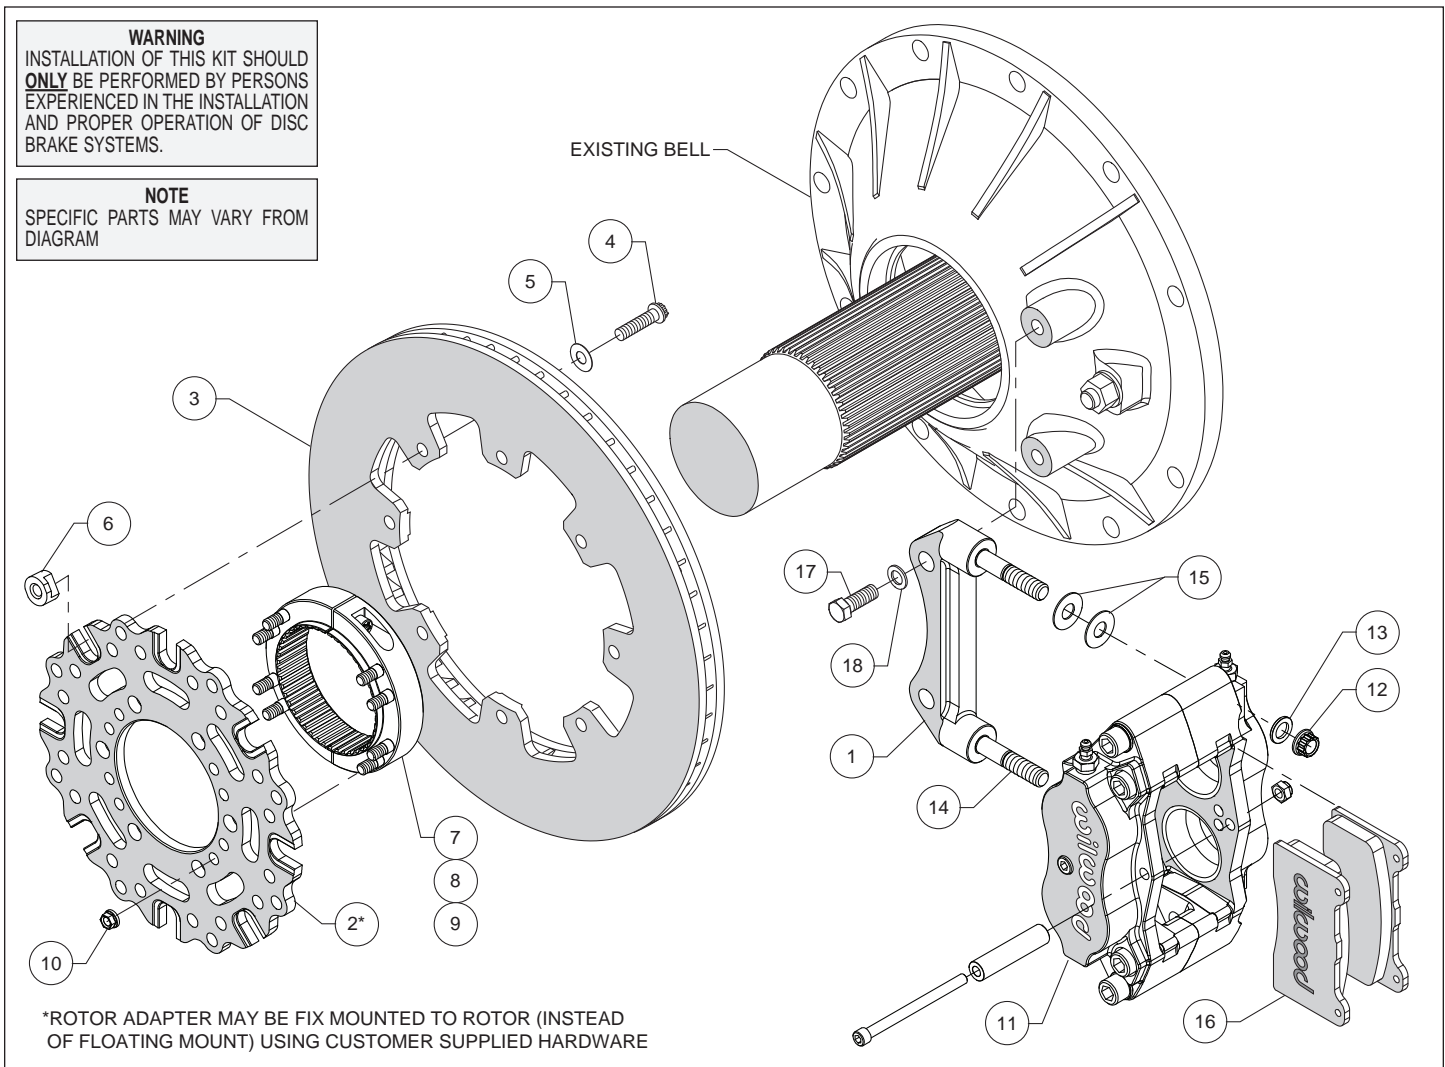

Figure 1. Typical Installation Configuration
• Orient the caliper mount bracket (1) as shown in Figure 1 and install using bolts (17) and washers (18). Temporarily tighten the mounting bolts. **NOTE: The bracket must fit squarely against the mount bosses on the bell.** Inspect for interference from casting irregularities, machining ridges, burrs, etc. Remove the bracket mounting bolts one at a time, apply red *Loctite*® 271 to the threads, and torque to 60 ft-lb.
• Orient the rotor adapter (2) and the rotor (3), as shown in Figure 1, and attach using bolts (4), washers (5) and t-nuts (6), Figure 1. Apply red *Loctite*® 271 to the bolt threads before installing. Finger tighten. After all t-nuts have been installed, torque bolts in an alternating sequence to 220 **in-lbs**. Please refer to Wilwood's data sheet DS-669 (available at [www.wilwood.com/Pdf/DataSheets/ds669.pdf](http://www.wilwood.com/Pdf/DataSheets/ds669.pdf)) for complete t-nut bolt kit installation instructions. **NOTE: Rotor adapter may be fix mounted to rotor (instead of floating mount) using customer supplied hardware.**
- Orient the axle clamp assembly (7, 8 and 9, pre-assembled) as shown in Figure 1 and install onto the rotor adapter (2) using nuts (10). Tighten nuts part way while still allowing clamp-to-rotor movement. The nuts will be torqued later, after aligning the rotor. **NOTE:** *The axle clamp should be positioned inside of the rotor as shown in Figure 1, not offset, or outside of the rotor adapter.*
- Lubricate the caliper mounting studs (14) with lightweight oil. Initially place two .035" thick shims (15) on each stud as shown in Figure 1. Mount the caliper (11) onto the bracket (1) using lock nuts (12) and washers (13), Figure 1. Temporarily tighten the lock nuts and view the rotor through the top opening of the caliper. The rotor should be centered in the caliper. If not, slide the rotor/adapter assembly on the axle until the rotor is centered in the caliper. Tighten the clamp bolts (9) first, locking the clamp to the axle. Torque nuts (10) to 140 **in-lbs**.
- Remove the caliper center bridge pad retainer bolt, nut, and tube from the caliper. Insert the brake pads (16) into the caliper, with the friction material facing the rotor. Check that the top of the brake pad is flush with the outside diameter of the rotor. If not, adjust by adding or subtracting shims (15) between the caliper and the bracket. After the caliper pad height is set, torque the caliper lock nuts (12) to 30 ft-lb. Secure the brake pads in place with the center bridge pad retainer tube, bolt, and locknut. The locknut should be snug without play in the bolt or tube. Be cautious not to over tighten.